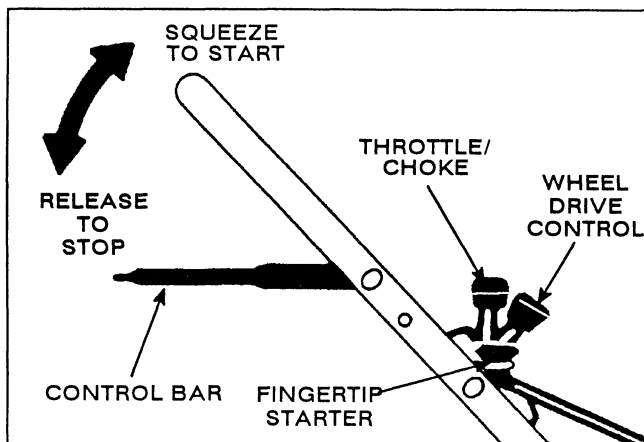

Figure 6
3. SELF-PROPELLING (Fig. 6)—Move wheel drive control to ENGAGE (model 16785). Front wheels will now drive mower. For maneuvering and making turns, push down on handle to raise front wheels slightly off grass. Move control to DISENGAGE detent to stop front wheel drive.